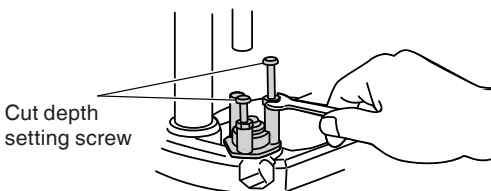

Fig. 7
- ③ When you are not using the scale to set the cutting depth, push up the stopper pole so that it is not in the way.
2. Stopper block (Fig. 7)